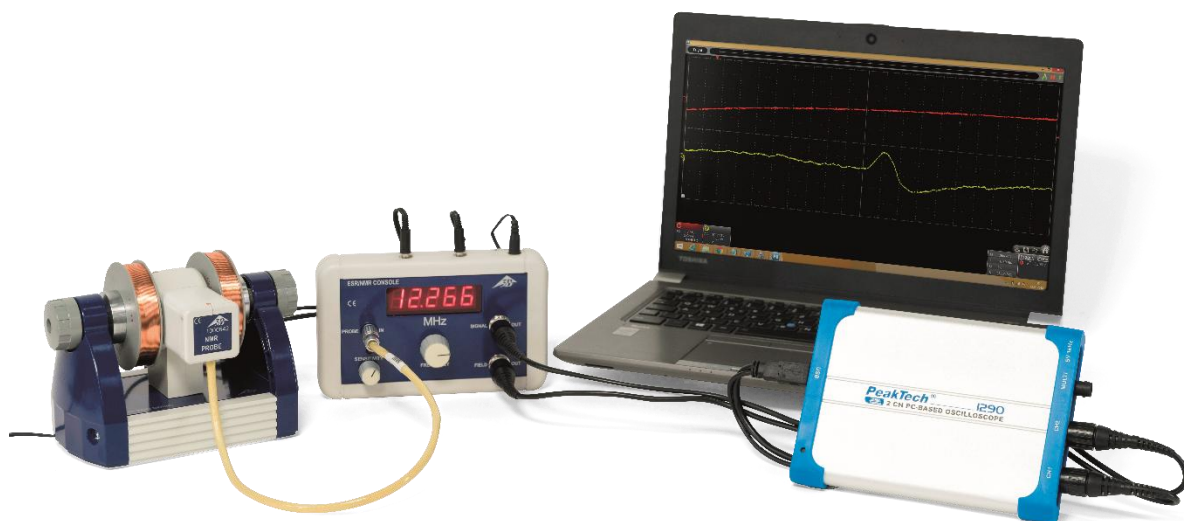

Fig. 3: Experimental setup for ESR with a PC oscilloscope
- Connect the “SIGNAL OUT” output of the control unit to channel 1 of the oscilloscope and the “FIELD OUT” output to channel 2 (see Fig. 3).